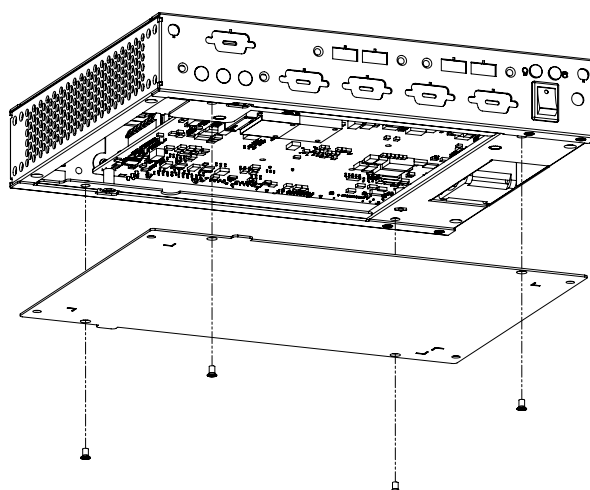

Figure 2.8 Removing the Chassis Cover and Installing the Mini-PCIe Device, Memory/
- Figure 2.8 Removing the Chassis Cover and Installing the Mini-PCIe Device, Memory/